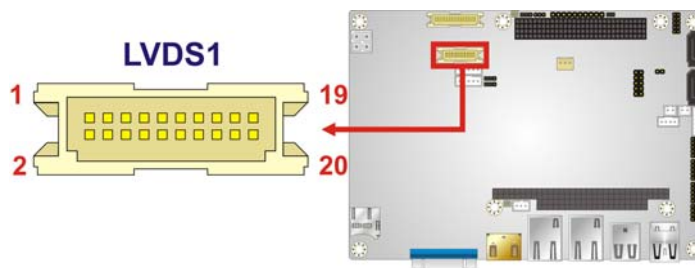

Figure 3-11: LVDS1 Connector Location
- CN Location:** See **Figure 3-11**